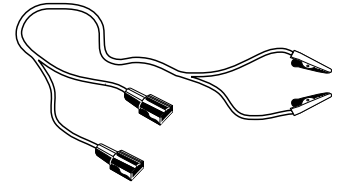
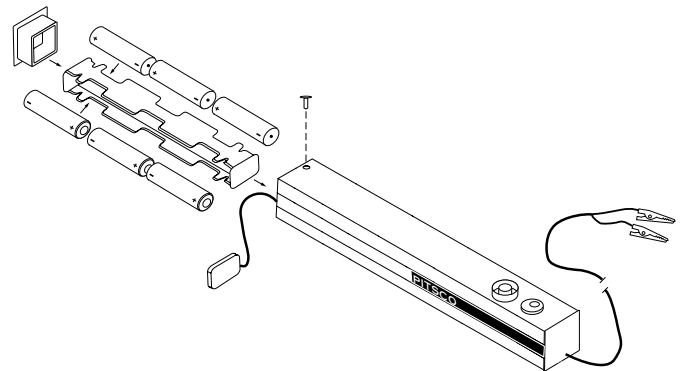

Figure 2
Figure 3
1. Attach the two terminals of the igniter clip assembly (Figure 2) to the leads extending from the Supervisor Module (Figure 3).
2. Install the batteries in the Supervisor Module. Use a Phillips screwdriver to remove the screw and end cap. Slide the battery box out of the Supervisor Module, and insert batteries as shown in Figure 3. Slide the battery box back into the unit, snap on the battery connector, and reinstall the end plug.